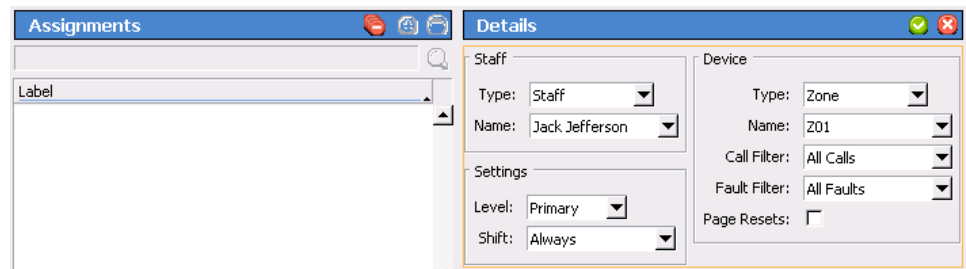

Figure 50: Event Monitor Assignments Register
1. In the Event Monitor software, click the **Registers** button and choose **Assignments** from the registers list. The Assignments register (Figure 50) will appear. The options visible on the Assignments register will vary depending on how the system has been programmed.